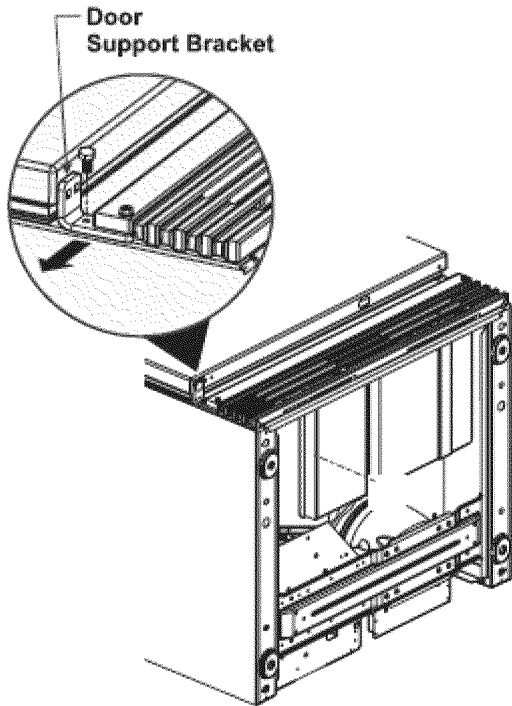

Figure 2
- Remove bottom door support bracket and screw opposite the door hinge using a 3/8" socket wrench. See Figure 2.